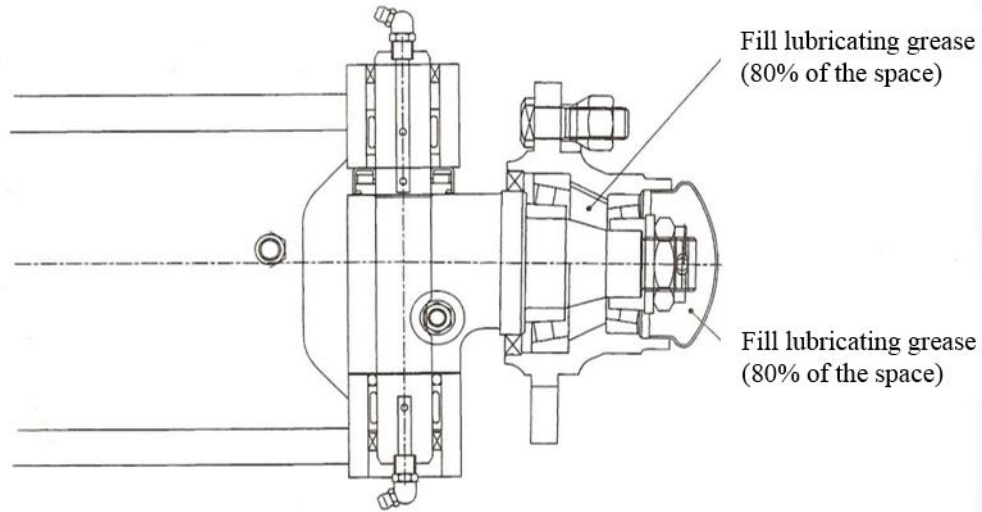

Fig. 3-5 Fill lubricating grease and pre-load adjustment
(1) As shown in Fig. 3-5, fill up the chamber formed by wheel hubs, wheel hub bearings and wheel hub covers with lubricating grease. Coat the lips of the oil seals with lubricating grease.
(2) Press the hub bearing into the hub and fit the hub on the knuckle shaft.
(3) Fit a flat washer and tighten a castle nut to a torque of 206-235Nm (21-24kgm) and loosen it, and then tighten it again to a torque of 9.8Nm (1kgm).
(4) To ensure firm installation of the hub, slightly knock at it with a wooden hammer and in the meantime, rotate the hub for 3-4turns.
(5) Tighten the castle nut and align one of its notches with a cotter pin hole drilled in the steering knuckle.
(6) Again slightly knock at the hub with a wooden hammer and in this time, rotate manually the hub for 3-4turns to ensure its smooth rotation with a specified torque of 2.94-7.8Nm (0.3-0.8kgm).
(7) If the torque value necessary to rotate the hub is more than the specified one above-mentioned, screw out the castle nut for 1/6 turn and measure the torque value then.
(8) When the torque value measured is up to the specified one, lock the castle nut with a cotter pin.